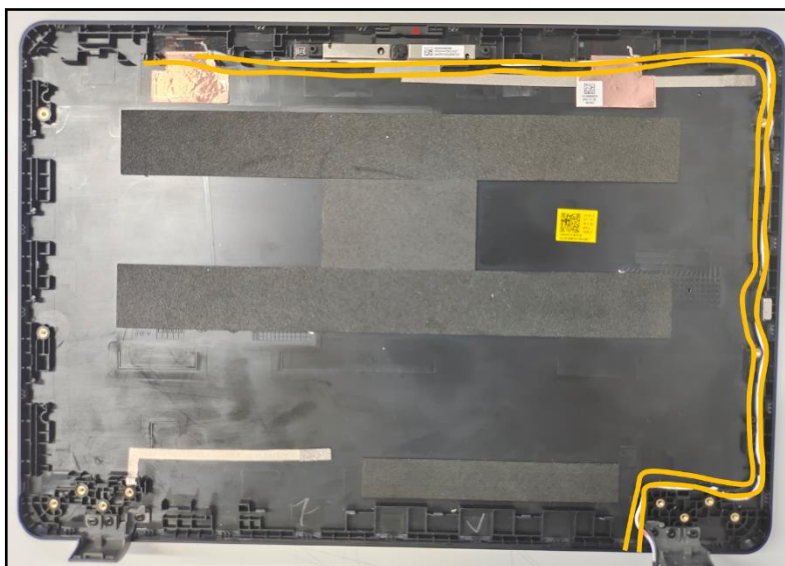

Figure 3-67. Replacing the WLAN Antenna
5. Route the WLAN antennas cables through the cable guides on the LCD cover as shown in Figure 3-67.